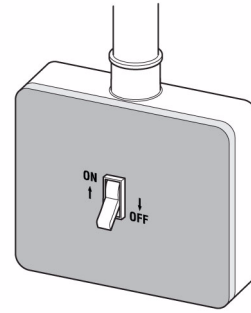

Fig. 3 Boiler System Emergency Switch
- V Switch of boiler system emergency switch (Fig. 3).